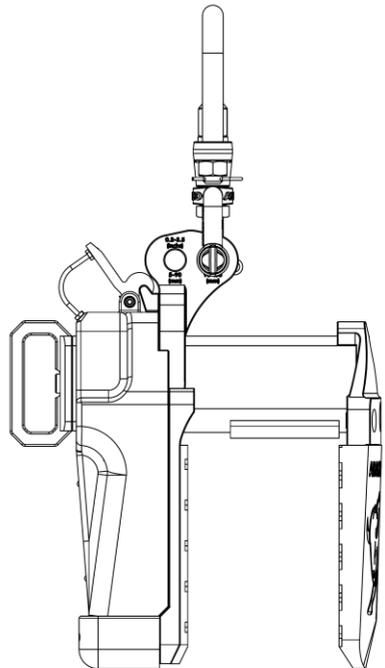

Figure 1.2
- Hook the Swivel Shackle at position 2 when the slab thickness is from $3\frac{9}{16}$ " (90mm) to $5\frac{7}{8}$ " (150mm) (Figure 1.2).